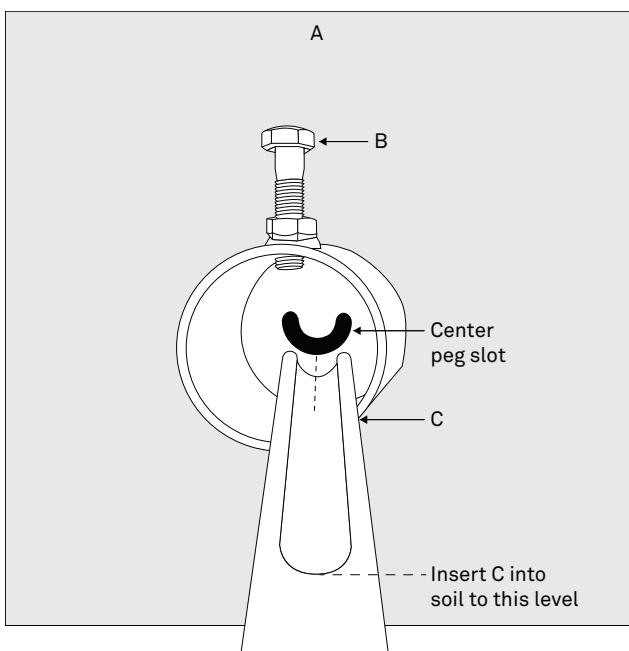

Figure 1 Set up the mast (E)
1. Set the base plate (A) in the desired level location.
2. Align the center peg (C) with the center peg slot (Figure 1).
3. Insert the center peg (C) firmly in the soil until the entire lower portion is under ground (Figure 1). A hammer or mallet may be needed to get it to the required depth, depending on how hard the soil is.
4. Place the mast (E) over the center peg (C) and seat the mast in the base plate (A) circular housing.
5. Carefully tighten the set screw (B) (Figure 1).